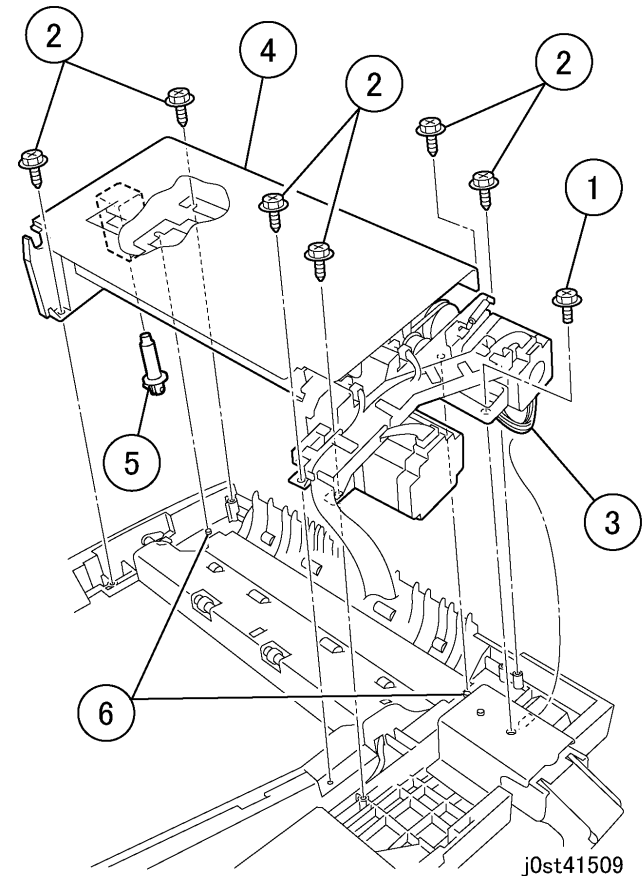

Figure 3 Removing the DADF Feeder Assembly
7. Remove the DADF Feeder Assembly. (Figure 3)